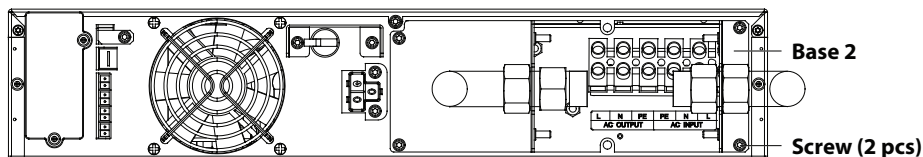

Figure 20: Installing Base 2
6. Use two rear panel mounting screws to install Base 2 to the UPS rear panel, as shown in Figure 20.